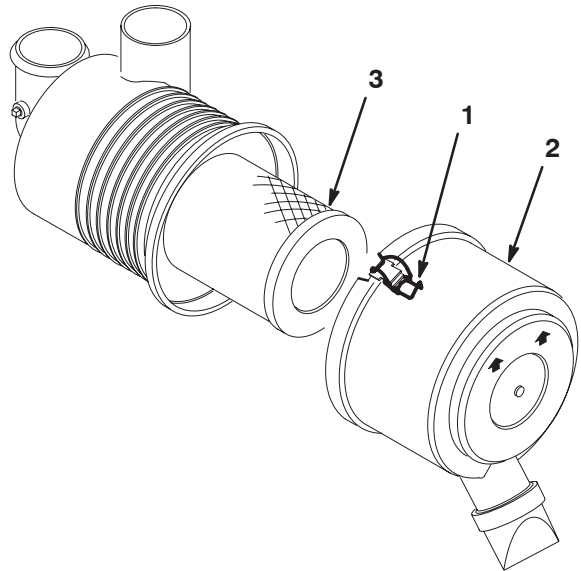

Figure 43
1. Release the latches securing the air cleaner cover to the air cleaner body (Fig. 43).